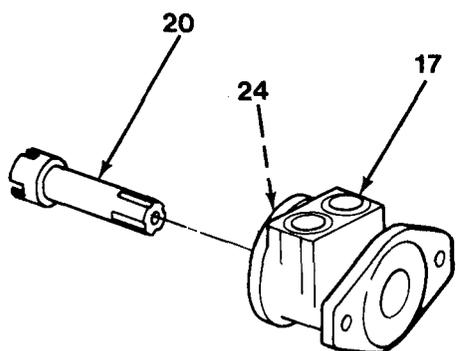

Figure 13-9
7. Install coupling shaft (20) into housing (17) seating it against thrust washer (24, Figure 13-9). Coupling shaft must rotate smoothly on thrust bearing package.